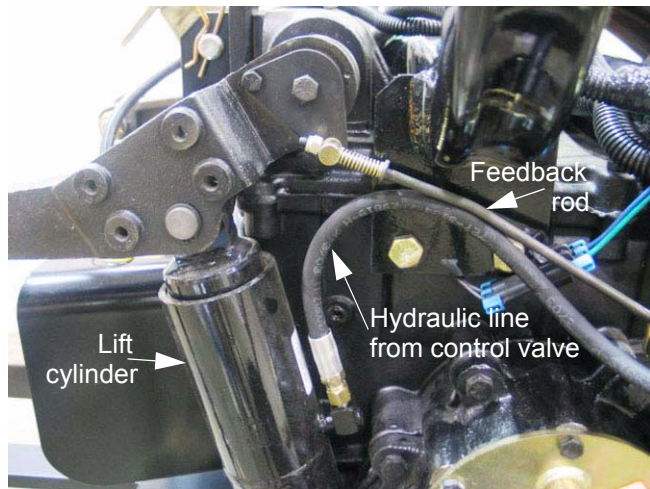

Figure 8.1
8.1. If the hydraulic lift cylinder does not work or is low on power, begin by making a visual inspection of the cylinder, linkage, and feedback rod. See Figure 8.1.